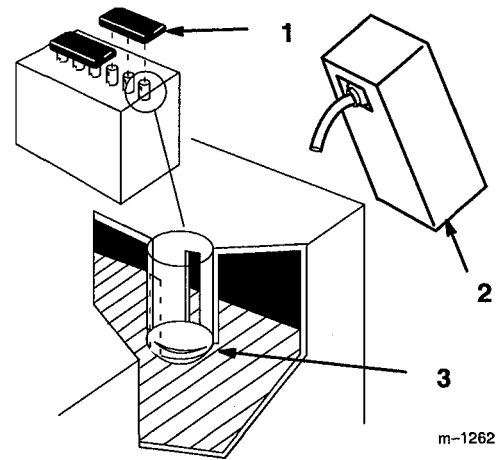

Figure 6
2. Remove filler caps from the battery. Slowly pour electrolyte into each cell until the electrolyte level is up to the lower part of the tube (Fig. 6).
5. Slowly pour electrolyte into each cell until the level is once again up to the "UPPER" line on the battery case (Fig. 6) and install covers.
2. Peel off backing from battery pads and affix pads to battery holder, positioning as shown in Fig. 6.